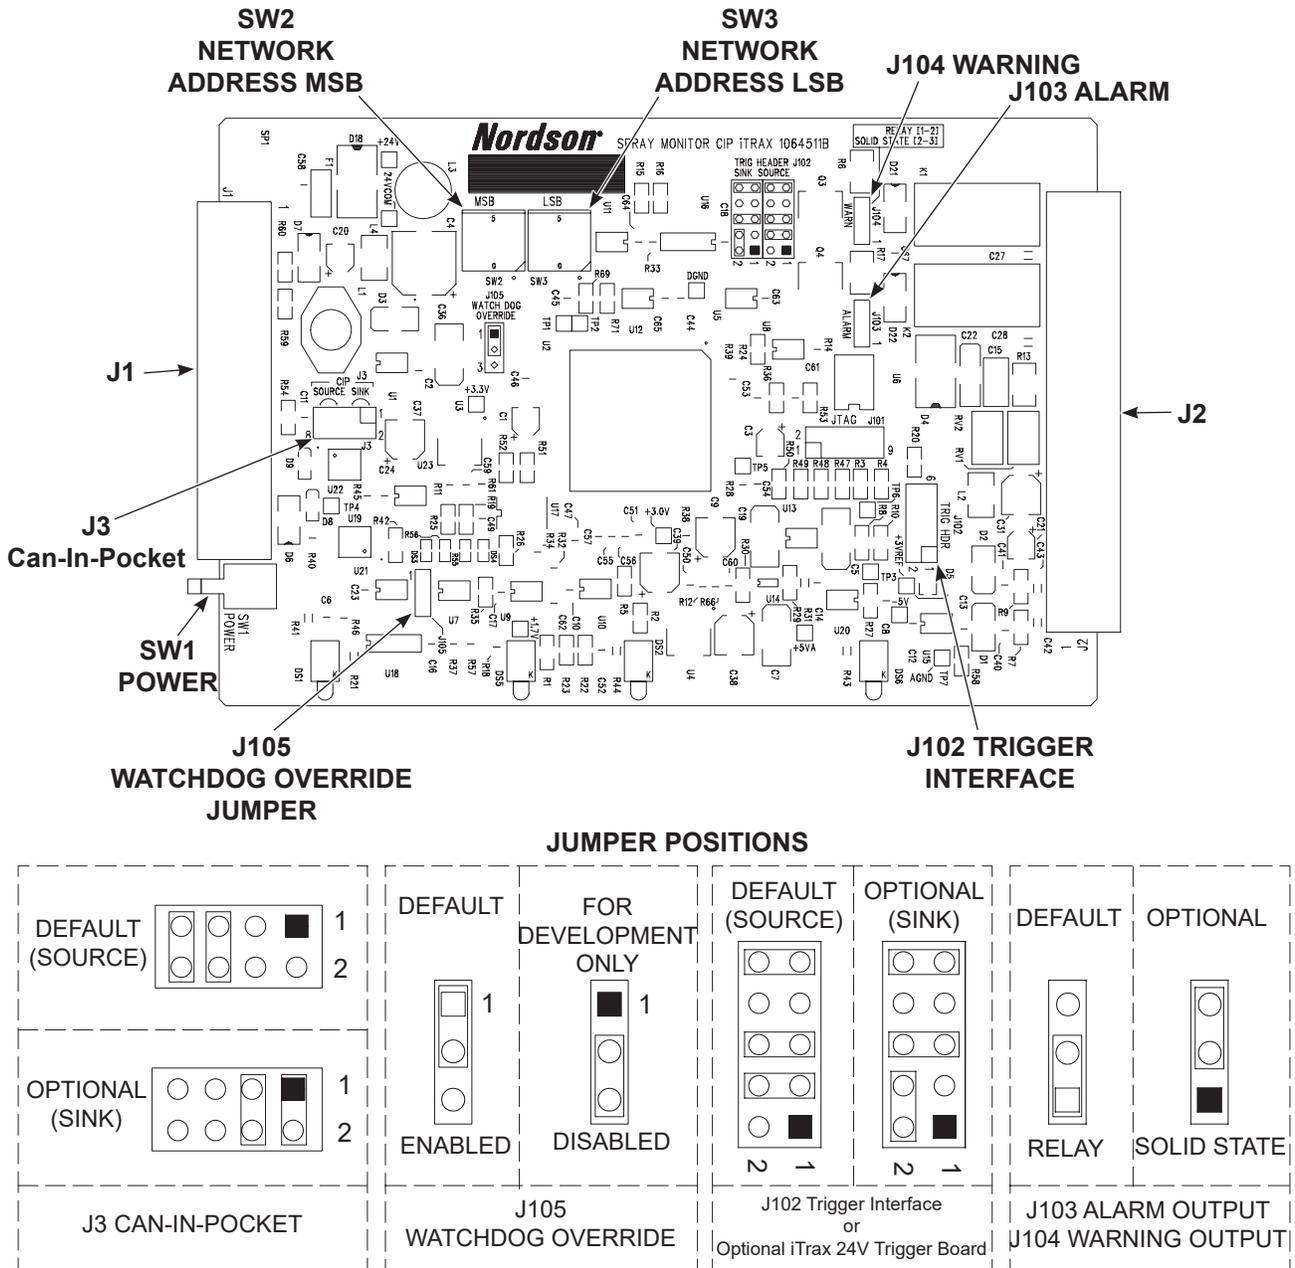

Figure 3 Spray Monitor Circuit Board Switches and Jumper Settings Spray Monitor Mounting
4. See Figure 3. Make the following settings:
NOTE: The following wiring diagrams show sourcing operation. If your system will be using a sinking sensor signal, connect the sink (white) wire in place of the source (green) wire and change the J3 jumper as described in Figure 3. Do not connect the wire that is not used.